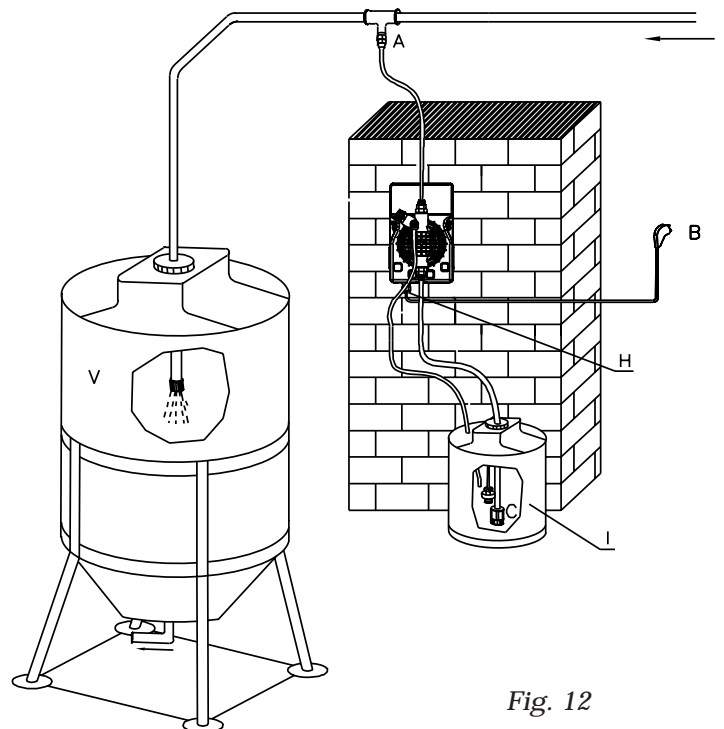

Fig. 12
6.2 - TYPICAL INSTALLATION (Fig.12)